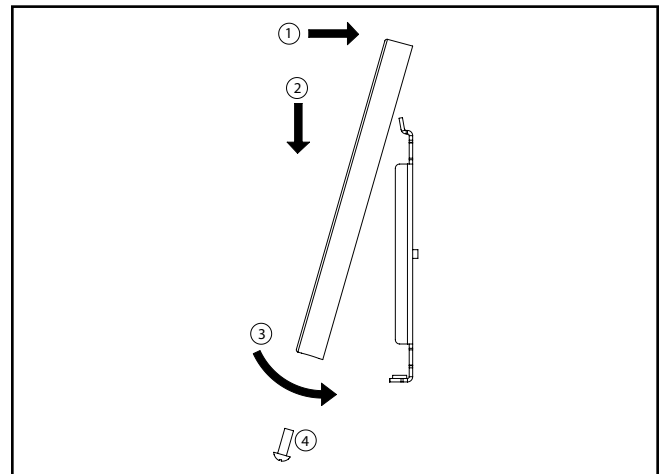

Figure 5.
10. Mount the Canopy to the Junction Box Bracket. Tilt the canopy and place the pocket at the top canopy over the top flange on the Junction Box Bracket. Slide the canopy so that there is full engagement between the Canopy and the Bracket, then tilt the canopy towards the mounting surface. Secure the assembly with the securing screw. Proceed to Finishing Instructions. (See Figure 5)